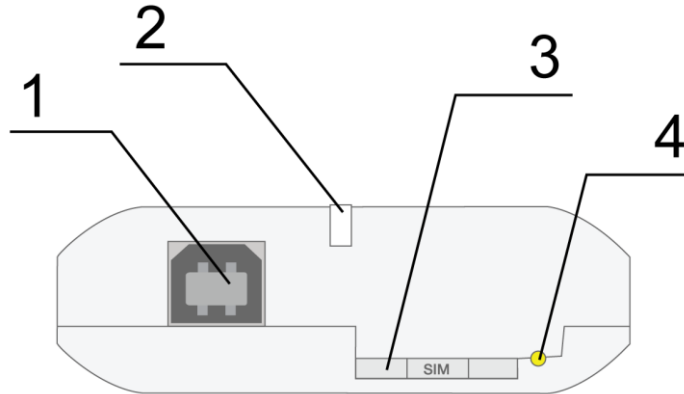
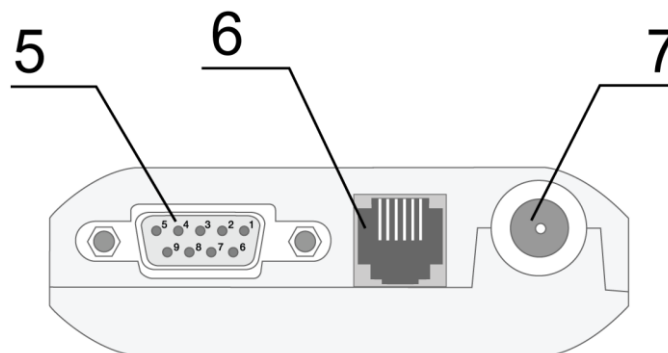

Fig. 2.1 Front panel
Fig. 2.2 Back panel
3G modem iRZ TU42-232 is a compact device in a plastic casing. The device general view is given in Fig. 2.1 and Fig. 2.2
- Remove a SIM card tray pressing the eject button (see Fig. 2.1).